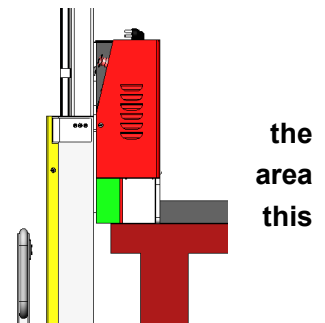

Fig. 9: Platform position
1. This self up stacker, in step 4, must keep the edge of platform in green area (safe operation area) under the pallet frame. The red is the limitation area, as shown in fig.9. It's not allowed to operate truck on other areas except the green and red areas.
As fig. 9 shown, park the truck securely and activate the emergency button (11). Open the main cover (14). Twist the wiring screw of battery, and fixing screws on the battery baffle, battery snap-gauge, remove the wires,